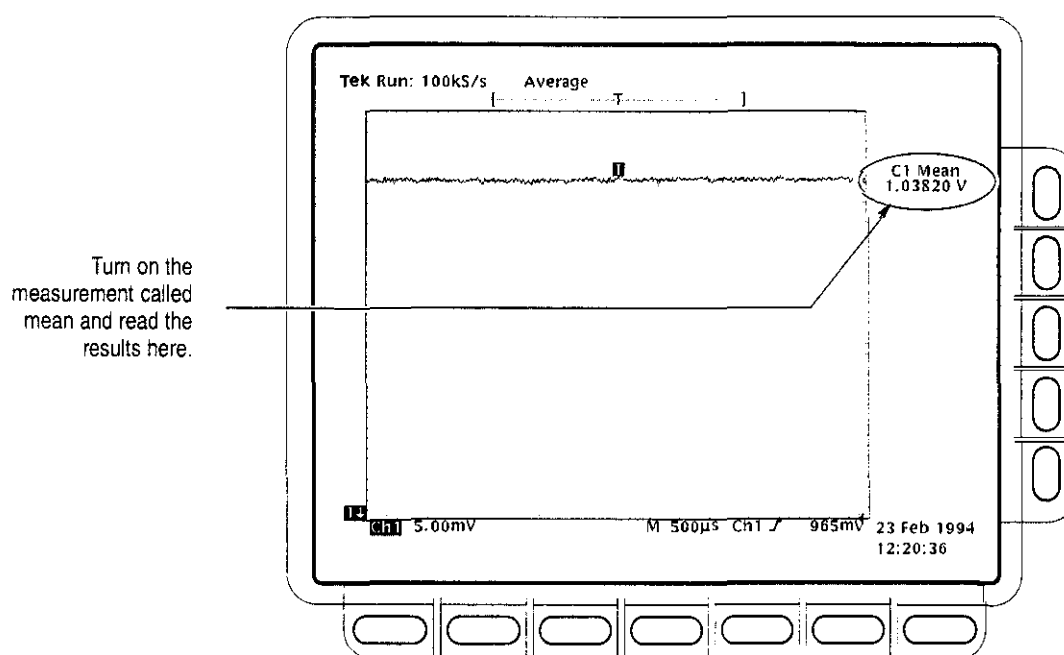

Figure 1-6: Measurement of DC Accuracy at Maximum Offset and Position
- e. *Measure the test signal:* Press **CLEAR MENU**. Read the measurement results at the **Mean** measurement readout. See Figure 1-6.